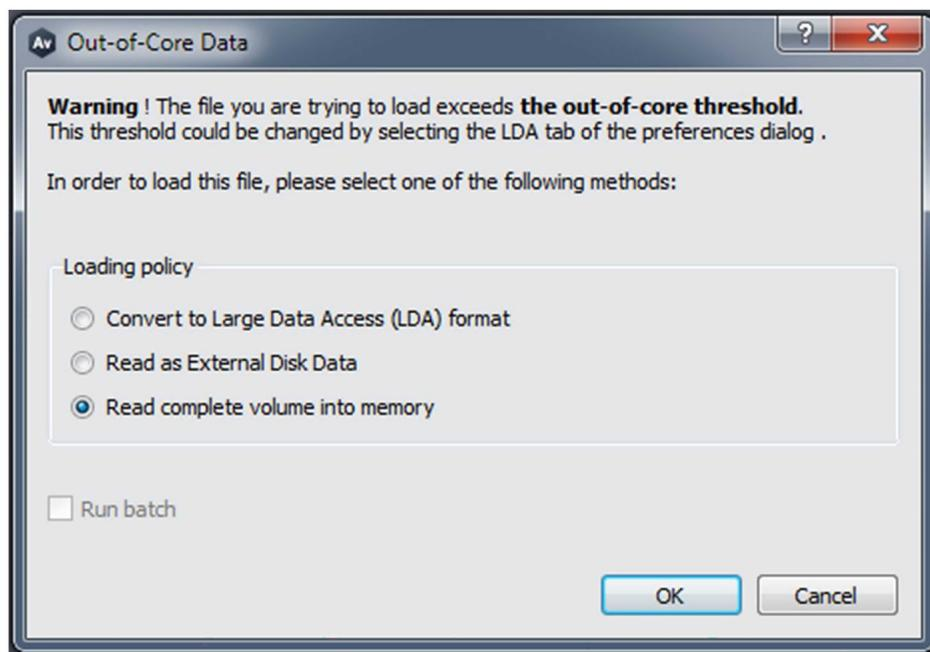

Fig. 7: 'Out-of-Core Data' window.
- 20.3 In 'Out-of-Core Data' choose 'Read complete volume into memory' and press 'Okay' (Fig. 7).